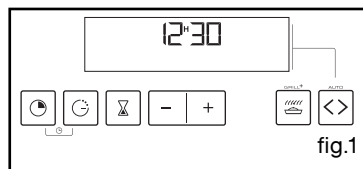

fig.1
• **Anti-tipping safety grid (fig.1)**
The display flashes 12:00. (fig.1)
The function selector must be in position 0 (fig. 1).
It should not be flashing (fig.1).
- Select the cooking mode desired and adjust the temperature (fig.1).
The end cooking time display to indicate that setting is now possible (fig.1).